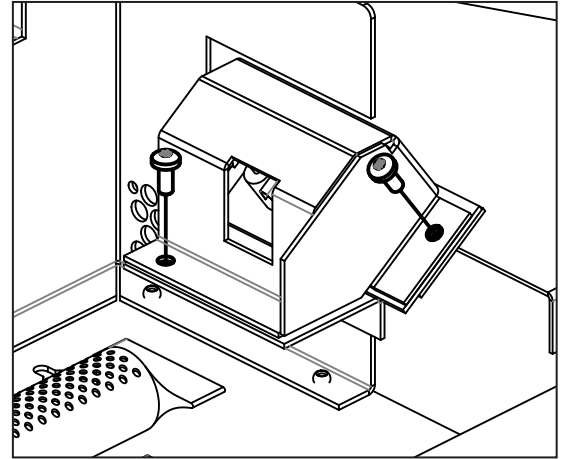

Figure 13: Pilot Shield Removal
4. Remove the pilot shield from the pilot assembly (see Figure 13).